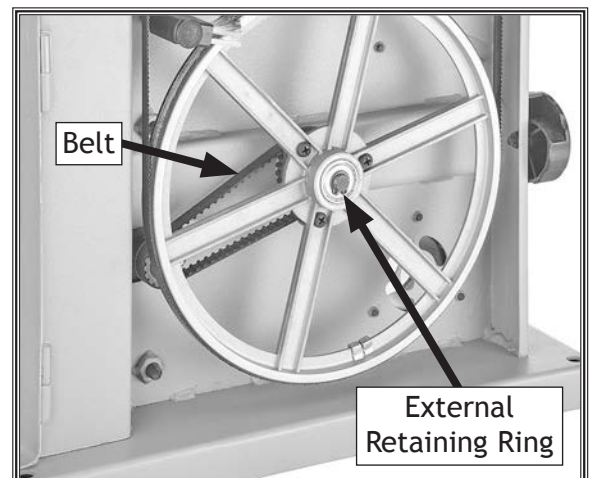

Figure 46. Belt change components inside lower wheel cover.
6. Remove external retaining ring from lower wheel shaft (see **Figure 46**) and remove lower wheel.